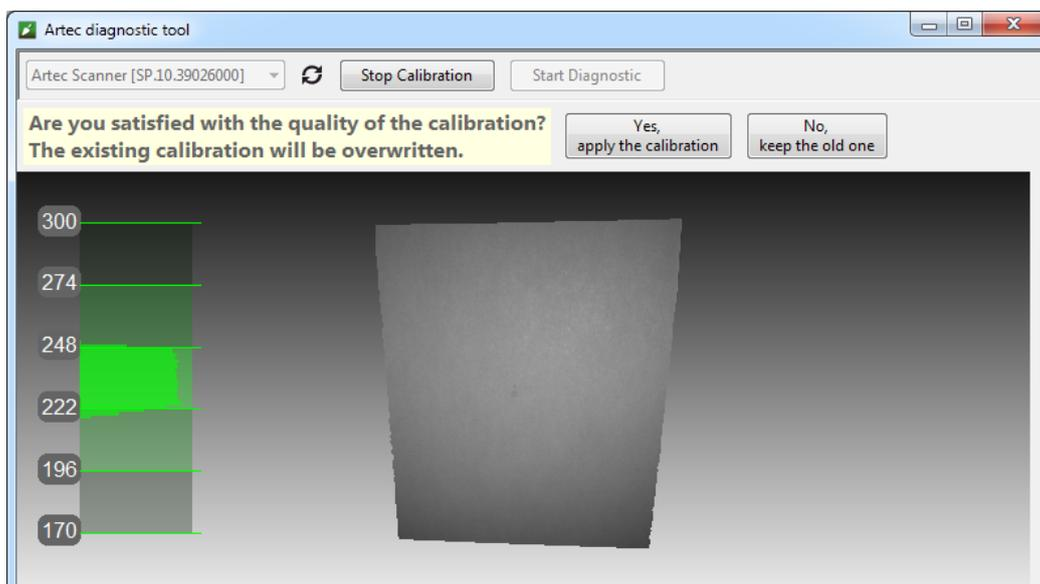

Figure 161: Assessing calibration results.
11. Click *Yes, apply the calibration* if no holes appear on the surface and you are satisfied with the reconstruction results. To reject the new calibration, click *No, keep the old one* (see Figure 161).